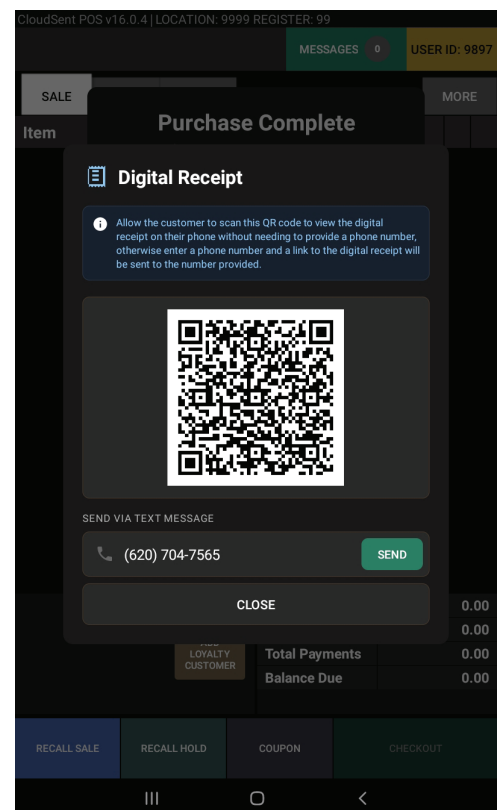

Figure 61
4. Customers may scan the QR code or enter a phone number to receive the receipt via text (Figure 61).